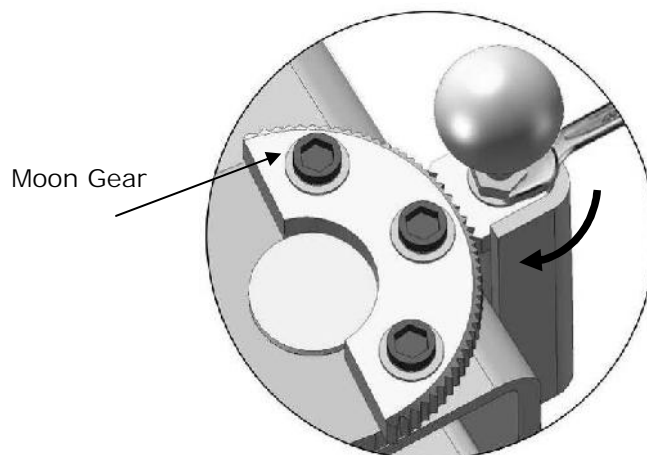

Fig. 27
4. Adjust the moon gear and arm lock to make it to be meshed, then tighten bolts of arm lock **(See Figure 27 Below)**.